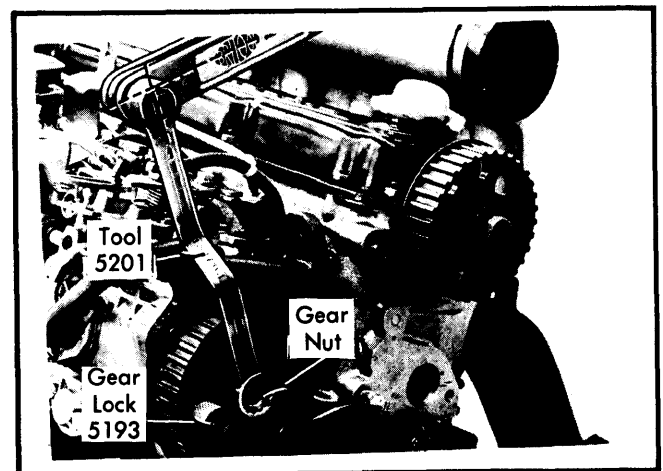

Fig. 9 Removing Injection Pump Gear
6) Lock injection pump gear with stop (5193) See Fig. 9. Remove gear nut with special tool (5201). Remove pump gear with puller (5204). Remove injection pump front bracket bolts and rear pump retaining bolts. Lift off pump and front bracket.
2) Make sure injection pump shaft key is correctly installed. Install gear, washer and nut. Lock gear with special tool (5193) and tighten nut with special tool (5201). See Fig. 9.